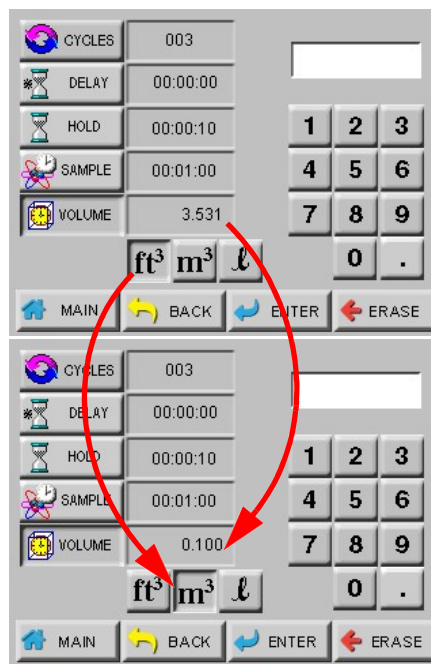

Figure 5-17 Changing Sample Volume Unit of Measure
- **VOLUME:** Instead of selecting a specific Sample Time, the instrument can be set to measure a specific Sample Volume in cubic feet (ft³), cubic meters (m³) or liters (l). When this is set, the corresponding Sample Volume will automatically be set. See Figure 5-17.